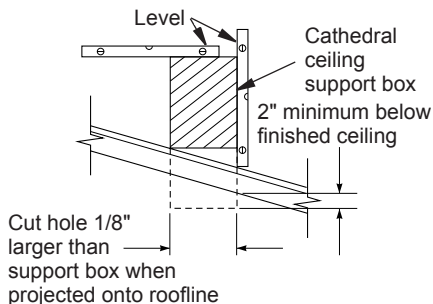

Figure 27 - Cathedral Ceiling Support Box Installation
2. Cut hole 1/8" larger than the support box outline (see Figure 27).
3. Lower support box through hole in roof until bottom of box extends at least 2" below ceiling (see Figure 27). Align support box vertically and horizontally using a level. Temporarily tack support box in place through inside walls and into roof sheathing.